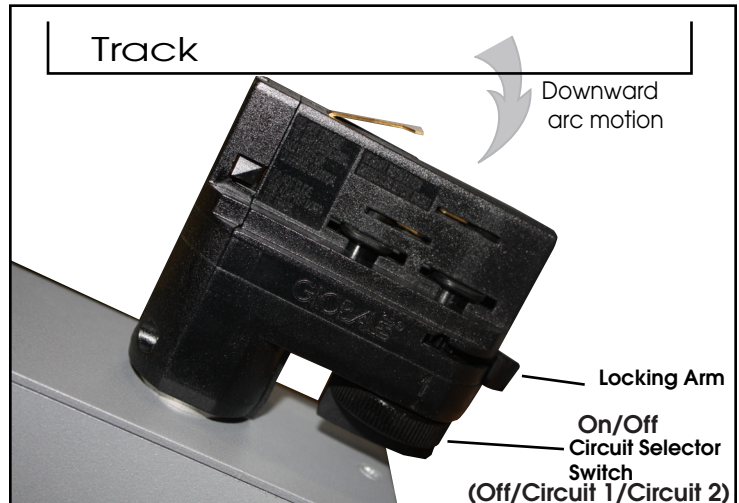

Figure 1
- 2) Insert **Adapter** into Tek Track Series, Rotate **Locking Arm** 90 ° clockwise to lock adapter into track, (As Shown in Figure 1.)
- 3) Pull **Adapter** out of track system in a downward arc motion to avoid damage to the track system, (As shown in figure 1.)